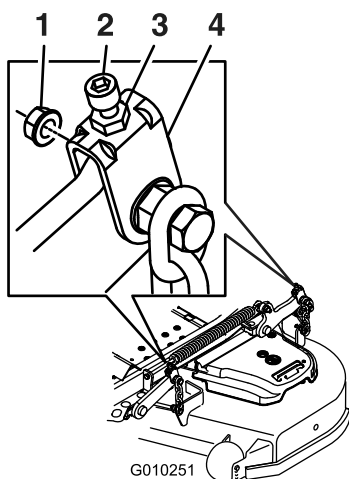

Figure 95
10. If needed, loosen the whizlock nut on the side of the yoke and the jam nut on top. Fine tune the screw adjuster by turning it to get a 7.6 mm (3 inches) height (Figure 95).
16. Fine-tune the screw adjuster by turning it to get 8.3 mm (3-1/4 inches) height (Figure 95).